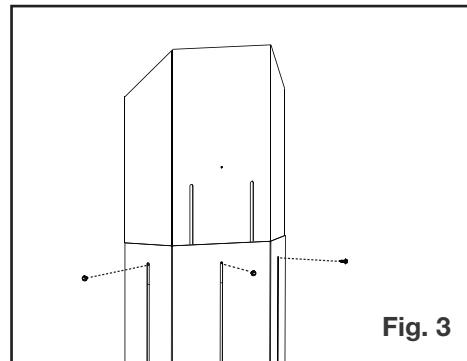

Fig. 3
3. Use the fasteners in step 1 to hold the new vent shield height (**Fig. 3**).